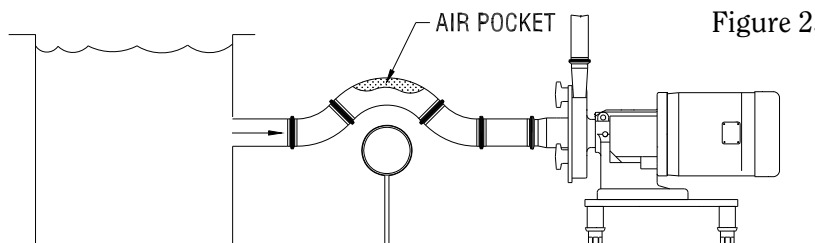

Figure 25
- Avoid the formation of air pockets in the piping (**Figure 25**).